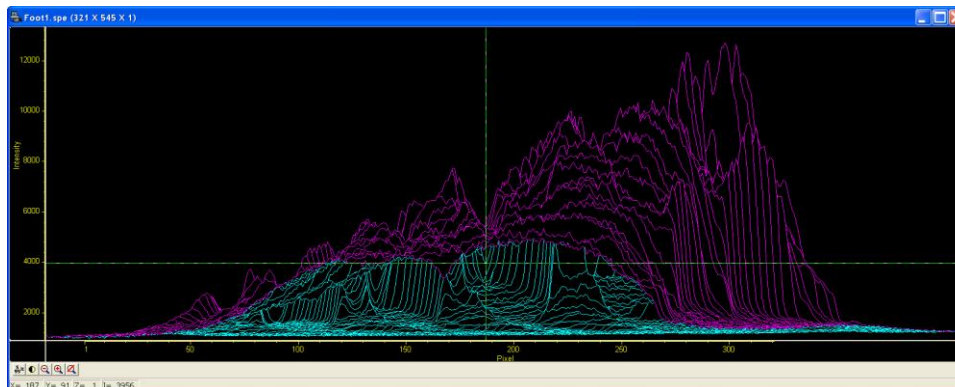

Figure 65. 3D Plot with Hidden Surfaces
- Click on **OK**. The data should be redisplayed as shown in Figure 65, with the hidden surface (lighter lines) clearly visible. Note that the **Info Bar** has been turned on so you can view cursor position information: turn this bar on by selecting it from the **Display** menu or on the **Display Layout|General** tab.